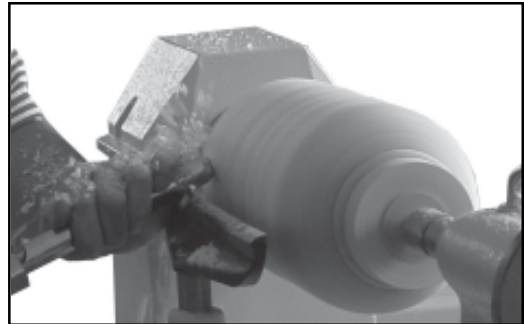

Fig.28
- 4.) Rotate the project by hand to ensure that it clears the tool rest by 1/4". (Figure 28)